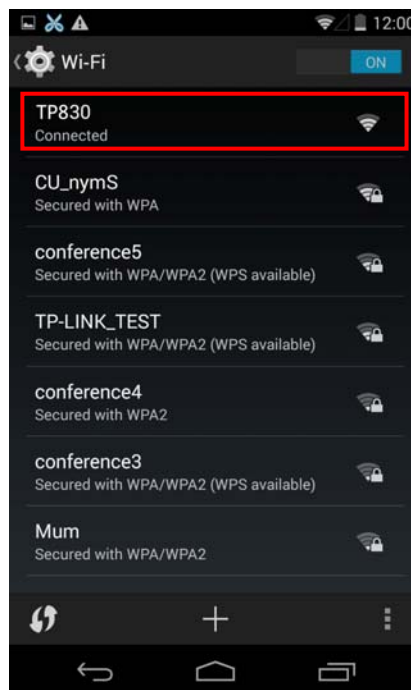

Figure 20
2.3 Select the “Wi-Fi” function to “ON”, and select the “TP830” hotspot, as shown in Figure 20.